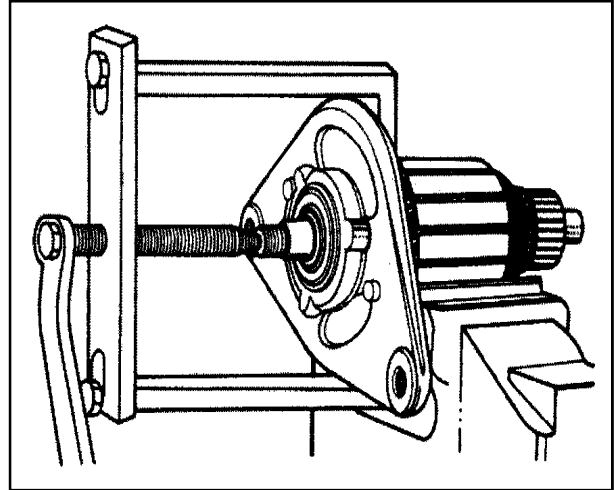

Figure 12
Remove the ball bearing from the commutator end gently with the help of puller. Keep the removed ball bearing with C.E. bracket separately to avoid mix up reference figure 12.
- Remove the D.E. bracket gently with the help of puller reference figure 12.